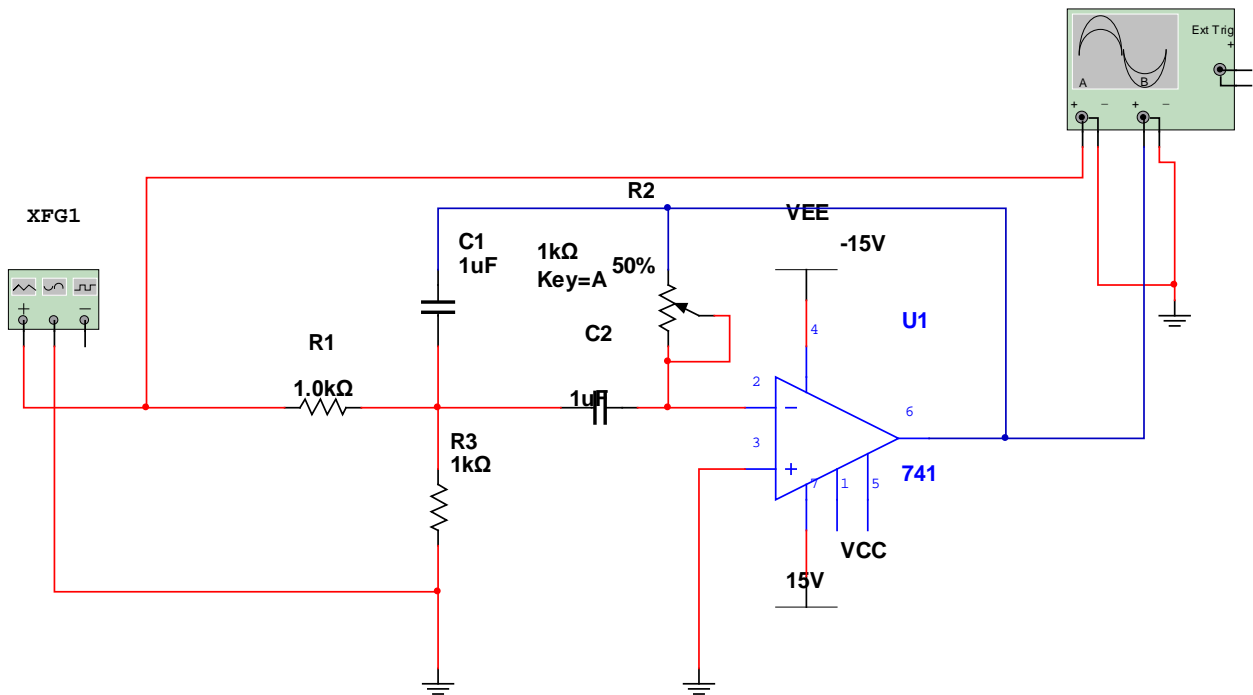

Figure E2-5. Schematic with Oscilloscope Placed
- e. Right-click on the red wire leading into Channel B+ and choose **Segment Color**. Pick a dark blue from the palette dialog. Your schematic should look like Figure E2-5.